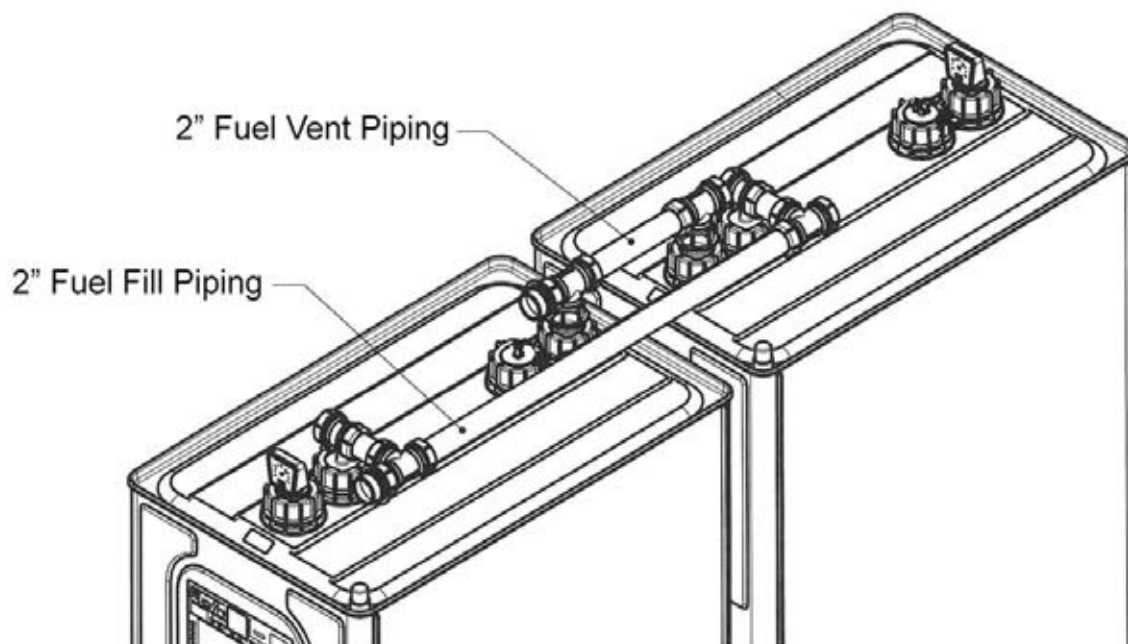

Figure 5.6
1. Roth offers an Expansion Kit #3 (#2315105343) for the indoor installation of two (2) 1000L tanks end to end.
4. Unlike the side by side installations, the fitting arrangement for the end to end installation must be as shown in Fig 5.6 below.